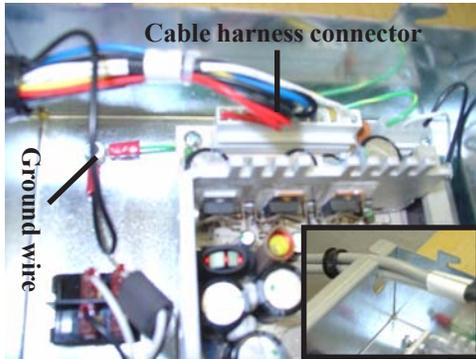

Figure 4. Disconnect cable harness and ground wire.
- Place the power supply assembly upside down on a flat surface. Disconnect the cable harness and ground wire shown in Figure 4. Remove the cable harness.
Note: Cables are secured to the enclosure inside a plastic snap bushing. To remove, push the bushing “out” of the enclosure and then slide the cables out of the slot (see insert, Figure 4).